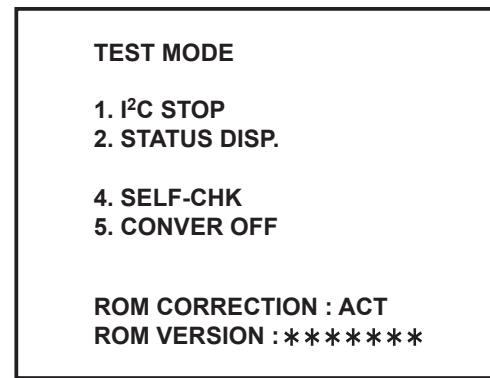

Fig.2
- (2) During the <SLEEP TIMER 30MIN> display, press [DISPLAY] key and [VIDEO STATUS] key at the same time.
- (3) Then <TEST MODE> screen is displayed. (Fig.2)
- (4) Press [4] key then <SELF-CHECK> screen is appear.